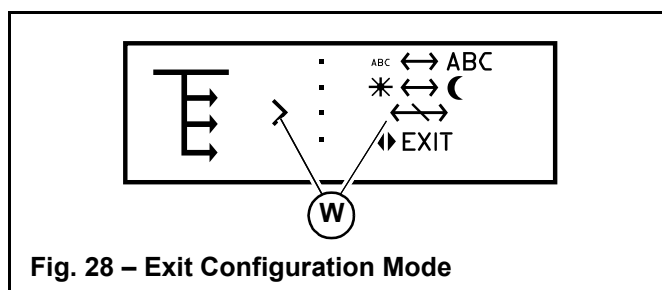

Fig. 28 – Exit Configuration Mode
4. Press and release the interface button until the selection caret points to the “EXIT” selection (W, Fig 28). Press and hold the interface button for 5 seconds. The currently selected control sensitivity is now activated.
4. Press and release the interface button until the selection caret points to the “EXIT” selection (W, Fig 28). Press and hold the interface button for 5 seconds. The travel speed limit option is now activated.